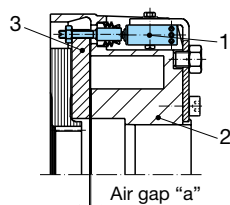

Fig. 1
- Microswitch / proximity switch for switching condition indication (release monitoring), Fig. 1